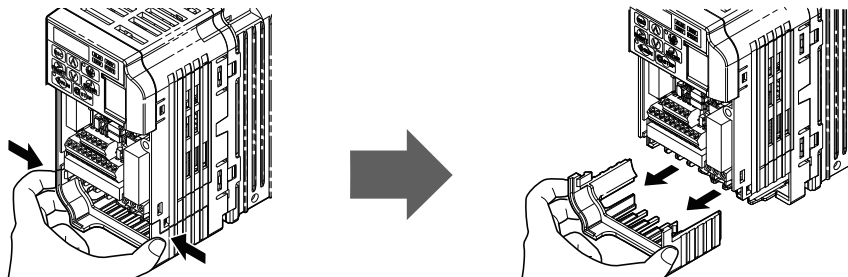
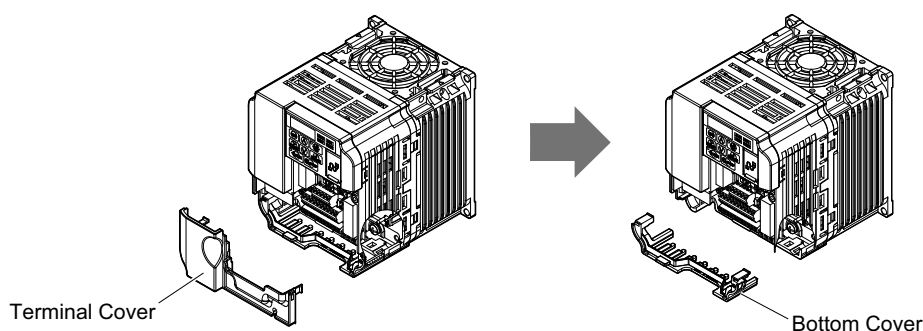

Figure 5 Remove the Bottom Cover on an IP20/Open-Chassis Drive
Figure 6 Remove the Terminal Cover and Bottom Cover on an IP20/Open-Chassis Drive
3. For IP20/Open-Chassis models CIMR-V□□A□□□□B, Remove the bottom cover of the drive by applying pressure to the tabs on each side of the bottom cover. Pull the bottom cover away from the drive while pushing in on the tabs to release the cover from the drive. Refer to **Figure 5** for details. Refer to **Figure 6** for drive models CIMR-V□BA0006B to BA0018B, 2A0008B to 2A0069B, and 4A0001B to 4A0038B, which require removing the terminal cover prior to removing the bottom cover.